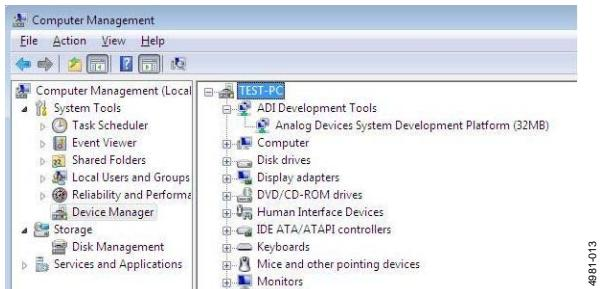

Figure 15. Device Manager
4. If the board does not appear to be functioning, ensure that the ADC evaluation board is connected to the SDP-H1 board and that the board is being recognized in the Device Manager, as shown in Figure 15.